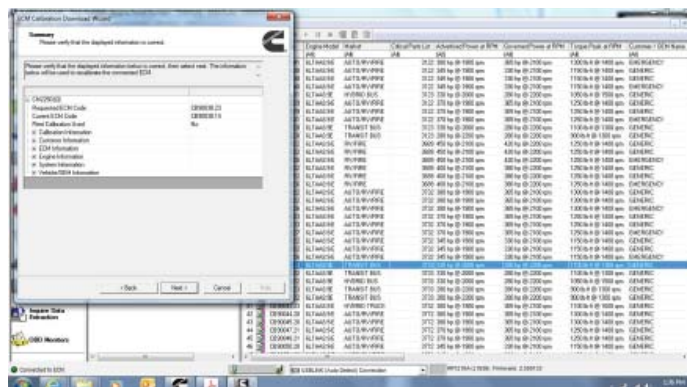

Figure 20 - Clicking on Next
1.20. Click next. See Figure 20.